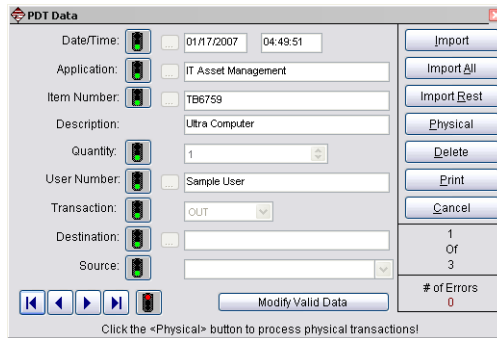

Figure 6-9 PDT Data
- 1 On the **PDT Data** dialog box (Figure 6-9), click the **Physical** button.